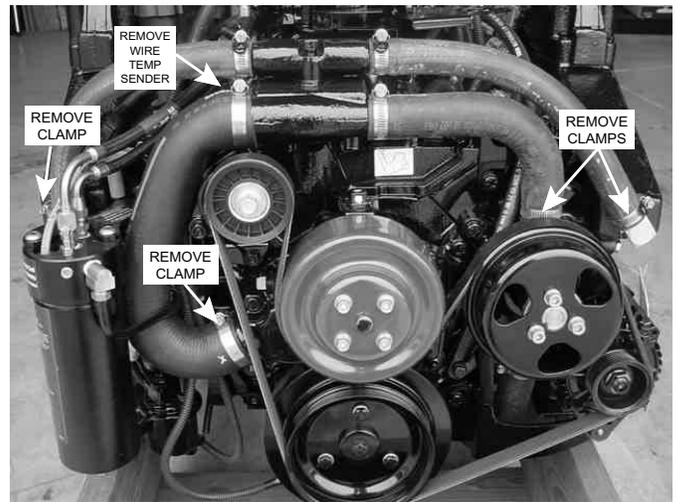

Figure 1-3 Disconnect Points - Steps 3a, 3b.
- b. Loosen the hose clamps of the raw water dump hoses at each exhaust manifold connection, the raw water pump hose at the raw water pump, and the raw water supply to engine hose at the circulating pump. Refer to Figure 1-3.